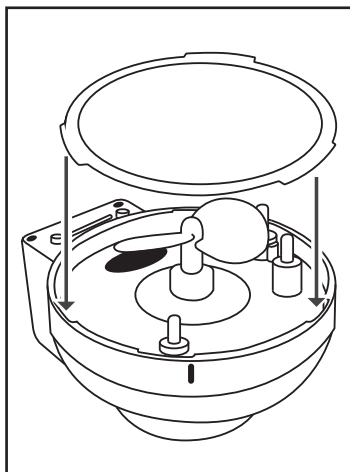

Fig. 6
- Wipe off any detergent residues using a cloth moistened with clean water. Make sure the sealing ring is correctly placed inside the plastic section of the motor unit **A** (see fig. 6).